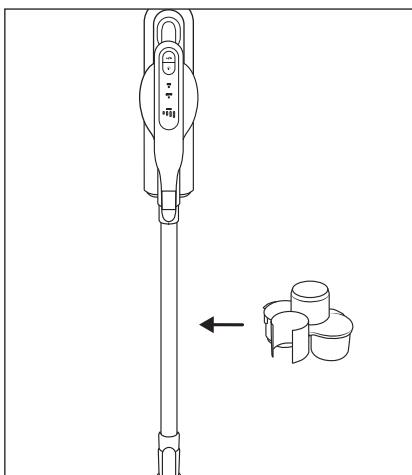

Fig. 19
- ◆ After use, press the On/Off switch ⑪ ⑯ to switch off the appliance. The display panel ⑯ goes out.
- ◆ Attach the accessories holder ⑯ to the suction pipe ⑯ (see Fig. 19).